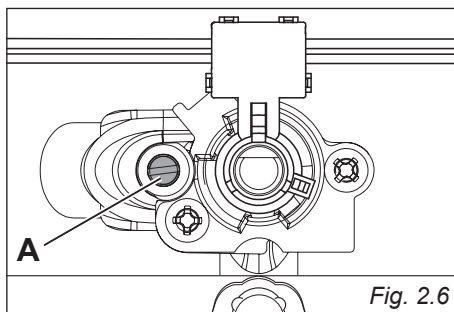

Fig. 2.6
- Using a screwdriver turn the screw "A" until adjustment is correct (fig. 2.6).